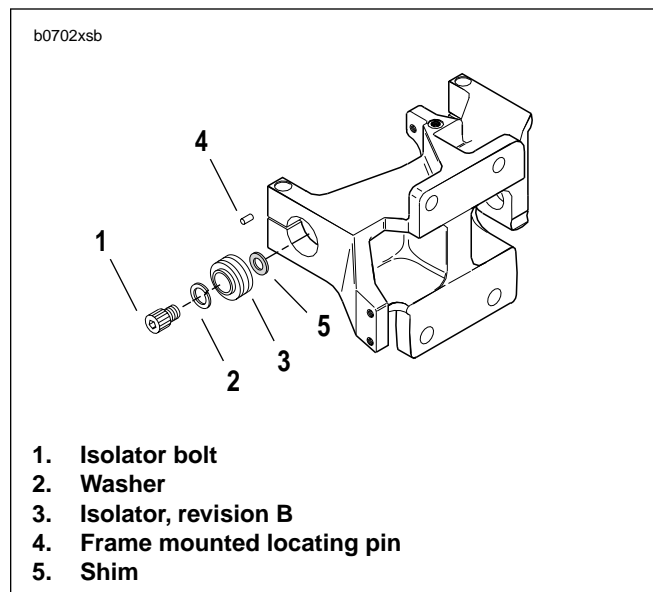

Figure 4. Isolator Assembly After Installing Kit
1. See Figure 4. Prepare isolator hardware for installation.
- a. Place isolator shim (5) next to swingarm mount block.
- b. Insert **new** rubber isolators (3) in place. Align metal pin on frame (4) and hole in isolator.
- c. At this time, apply **LOCTITE THREADLOCKER 262** (red) (Part No. 94759-99) to isolator bolt threads (1) and **LOCTITE ANTI-SEIZE** to bottom of isolator bolt head.